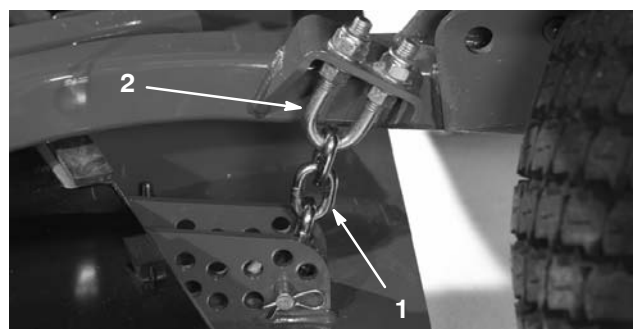

Figure 83
1. Loosen the jam nuts on the top or bottom of the height-of-cut chain u-bolt (Fig. 83).